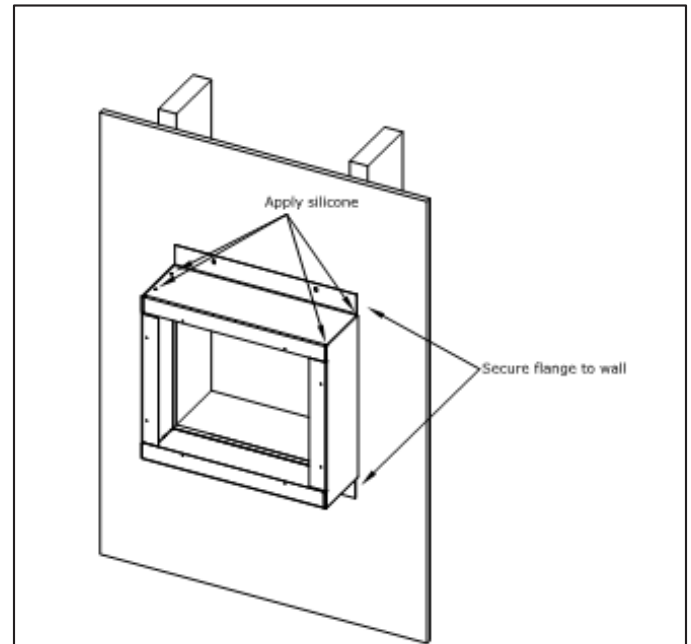

Figure 5.1 - Install FEK and Seal FEK
2. Secure the Finishing Extension Kit extension box to the building. Ensure the Finishing Extension Kit is squared on the framed opening. See Figure 5.1. Seal all corners, joints, and bend lines with silicone caulk. Ensure all gaps and holes are filled so a sealed envelope is formed.